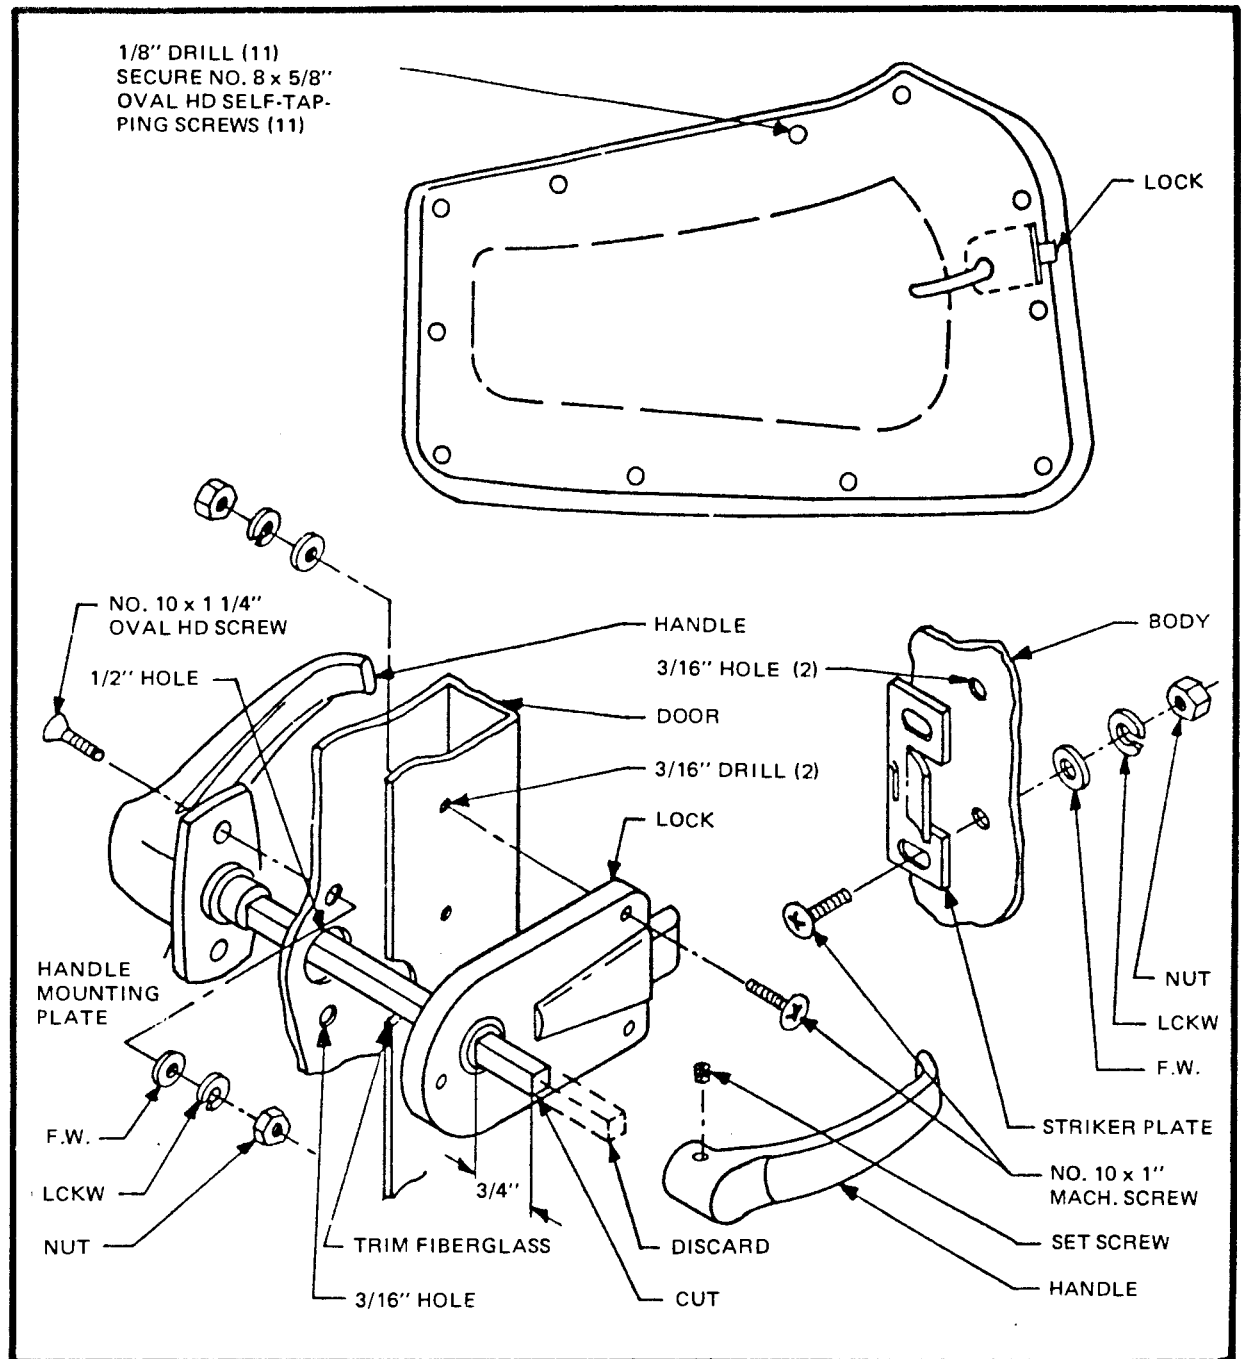

Figure 68
- Refer to Figure 68 . Temporarily hold upholstery in place and mark location of lock cut out. With door closed, hold lock in position with spring latch contacting body. Mark holes and drill ($3/16''$ drill bit). It may be necessary